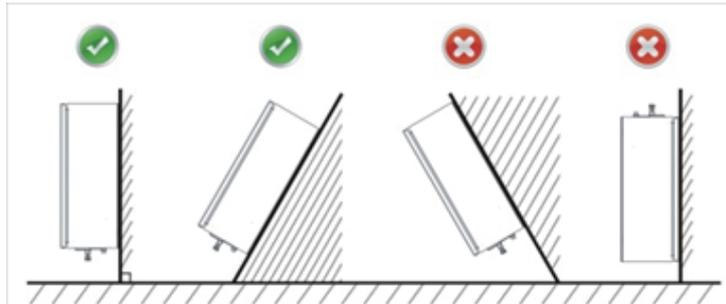

Figure 5. Permitted and prohibited mounting angle
- ⚠ The angle between mounting wall and vertical line of the earth should be less than 30° (Figure 5)